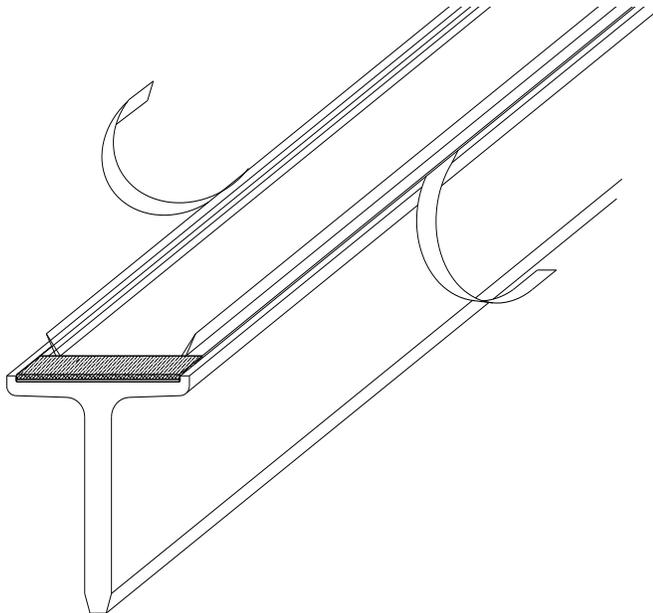

Figure 5
Mark both sides of the corner on the floor with a chalk line (or other preferred method) as shown in Figure 5. **Important:** Make sure that the two lines are perpendicular and in the exact final location desired for the corner of your kennel.
3. Apply the Silvis Seal to the "T" by removing approximately 2 ft. of backing tape. Starting at the end blocker, apply the Seal to the recessed channel in the "T" being careful to orient the Seal in line with the "T". Lay the rest of the Seal in the recessed channel. Carefully pull the remaining backing tape from the "Seal" and using light pressure adhere it to the aluminum as shown in Figure 5.